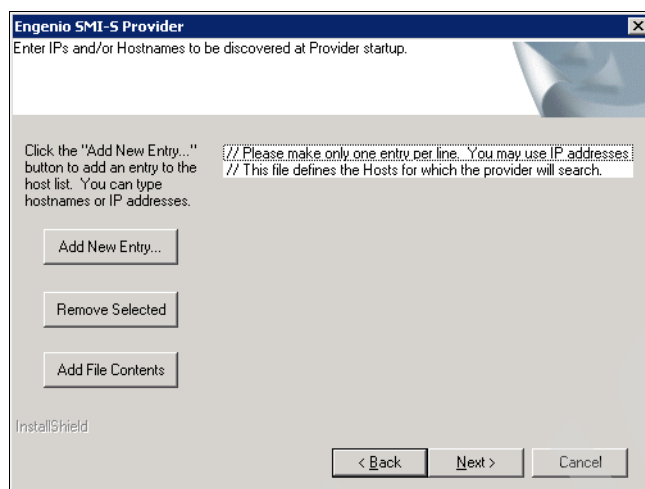

Figure 9-7 Device List window
6. In the next window, enter IP addresses or host names of devices to be discovered by the SMI-S Provider at startup, as shown in Figure 9-7. In this case, you need to enter the controller management IP addresses of each of the DS4000/DS5000 Storage Server that you intend to monitor.